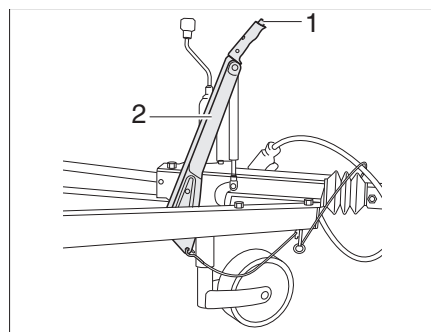

Fig. 15 Alternative: Handbrake
- In order to release it, press the securing button (Fig. 15,1) and lower the handbrake (Fig. 15,2).